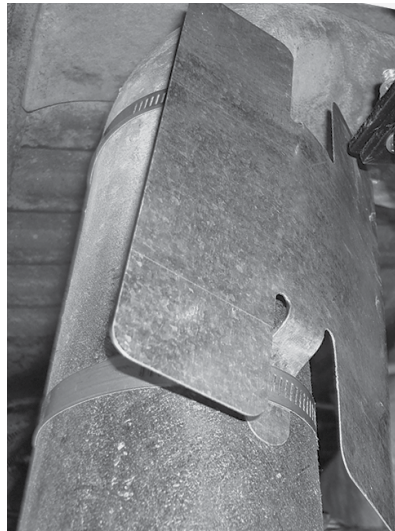

fig. 5
9. Most universal kits come with a heat shield for the exhaust (Fig. 5). If the exhaust is less than 3" away from the coil spring, it will be necessary to install the heat shield in between the exhaust and the coil spring to shield the air spring from heat. See the instruction manual in the heat shield kit for installation instructions.